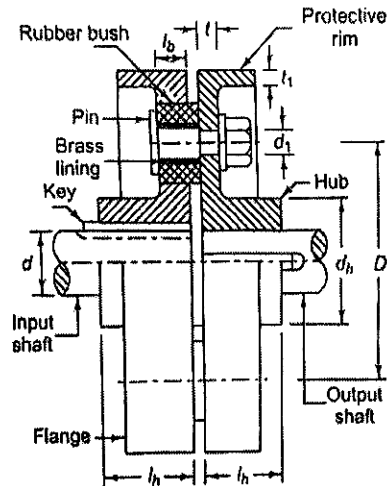

Fig. 1
- b) A flexible coupling given in the fig. 1, is used to transmit 15 kW power at 100 rpm. There are 6 pins and their pitch circle diameter is 200 mm. The effective length of the bush (l_b), the gap between both flanges and the length of the pin in contact with the right hand flange are 35, 5 and 30 mm respectively. The permissible shear and bending stresses of the pin are 35 and 150 N/mm^2 respectively. Calculate the pin diameter.